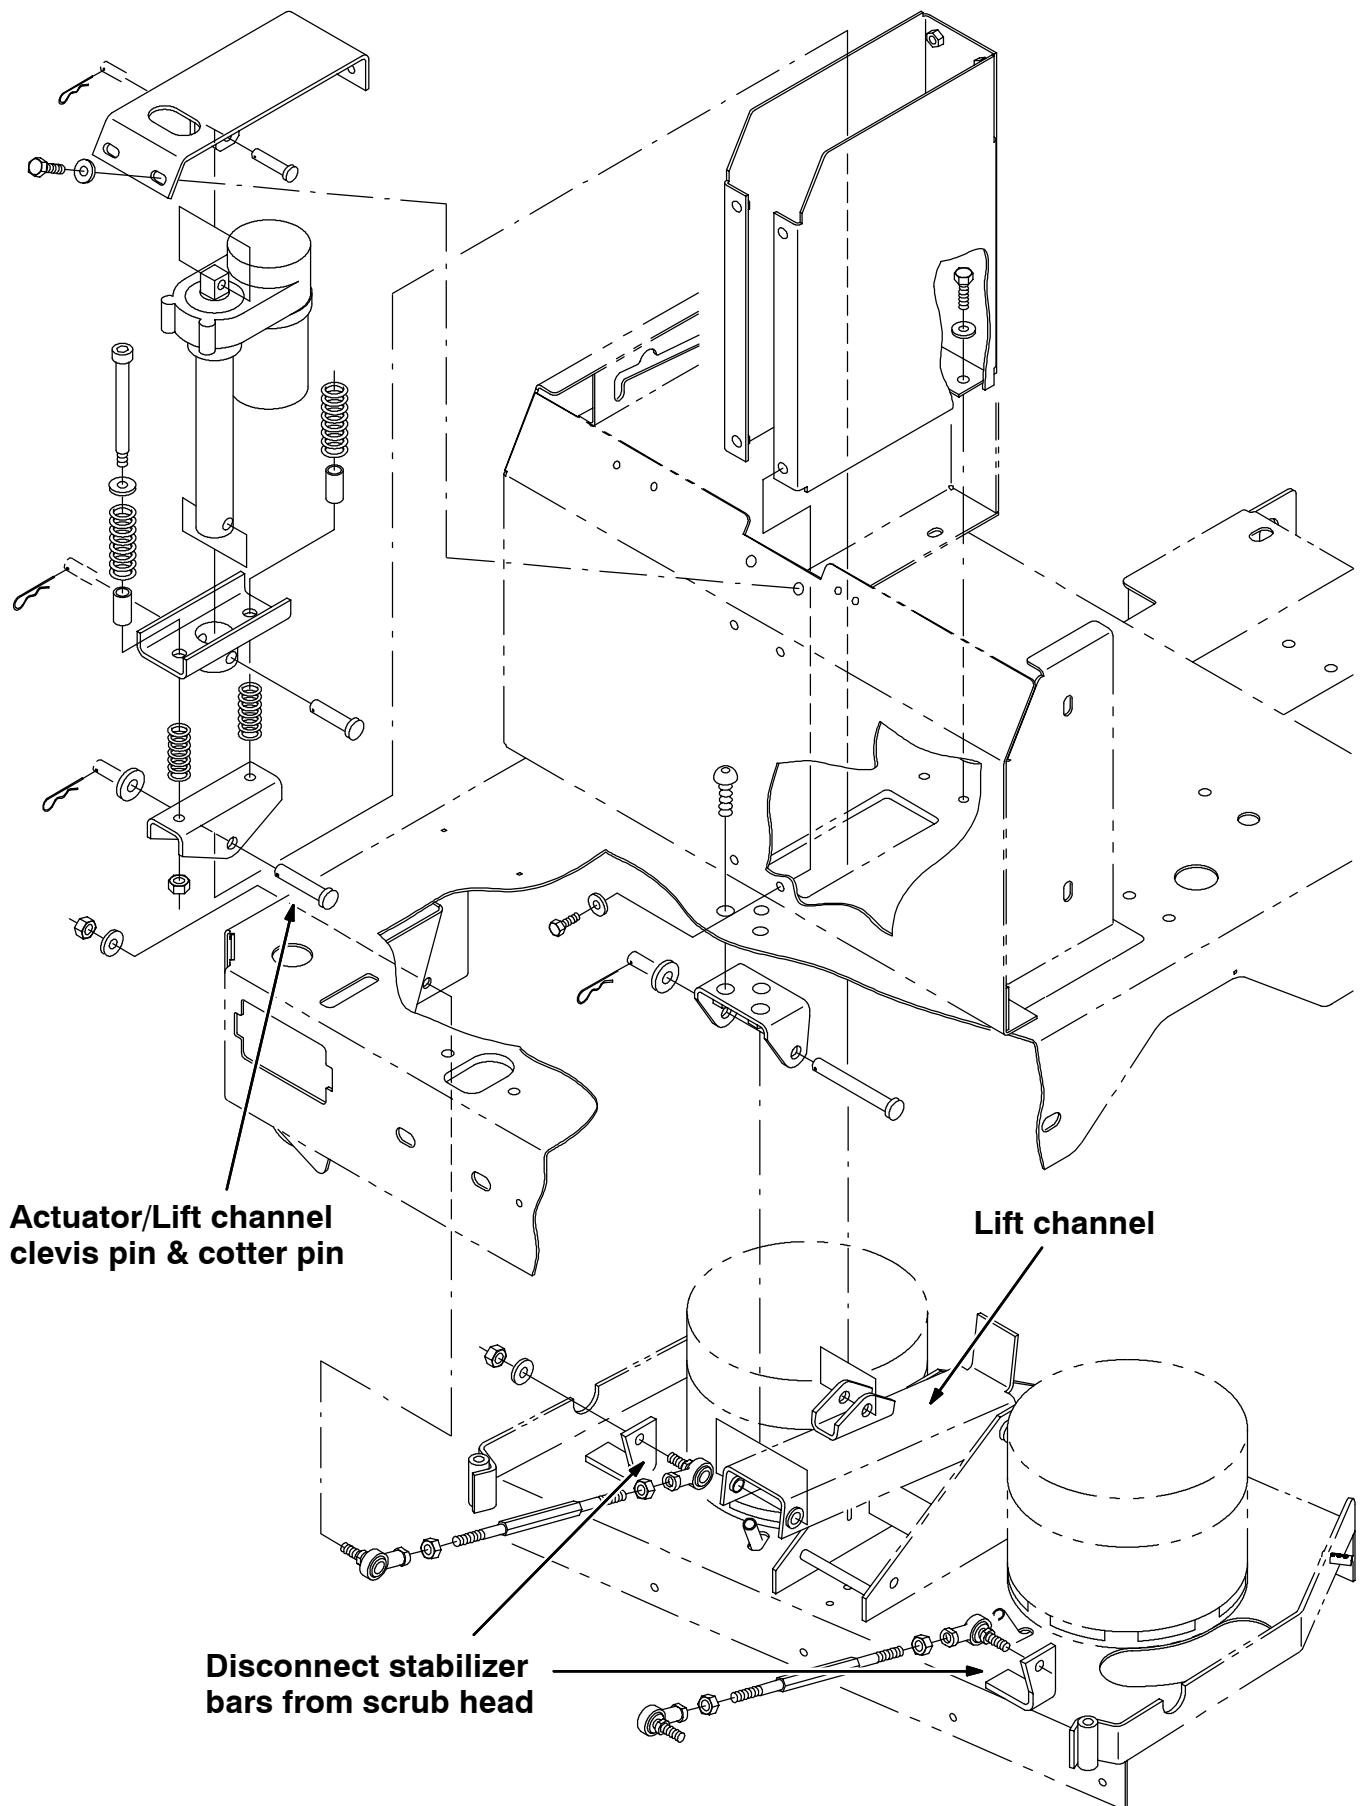

FIG. 1 - Scrub Head Lift Group, Standard
(Refer to FIG. 1 thru 7)
3. Disconnect the scrub head actuator lift tool from the scrub head. Retain the clevis pin and cotter pin for reassembly. (Refer to FIG. 1 and 2)
1. Disconnect and tie up the stabilizer bars from each side of the scrub head. (Refer to FIG. 1)
2. Locate the lift channel underneath the machine, connecting the scrub head to the machine frame. (Refer to FIG. 1,2 and 5)
(Refer to FIG. 1 thru 5)
2. Position the actuator lift tool over the tool lift channel with the longer side on the left hand side of the machine. Mount the scrub head lift channel to the machine frame with the longer set aside clevis pins washers and cotter pin. Release the link arms, and reconnect to each side of the scrub head. (Refer to FIG 1,2 and 5)
3. Turn the machine power on, and slowly lower the scrub head lift actuator. Connect the scrub head actuator lift tool to the scrub head lift channel with the set aside clevis pin and cotter pin. (Refer to FIG 1,2 and 5)